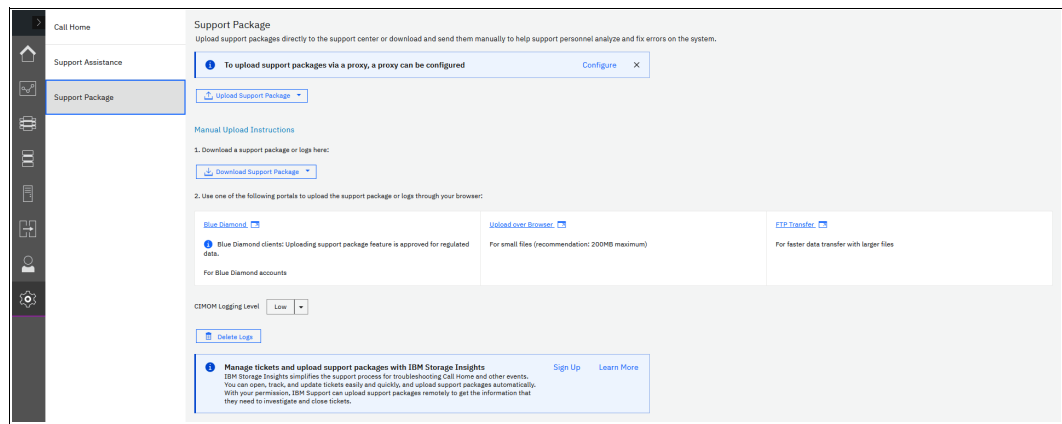

Figure 13-60 Support Package window
1. Select **Settings** → **Support** and then the **Support Package** tab (see Figure 13-60).